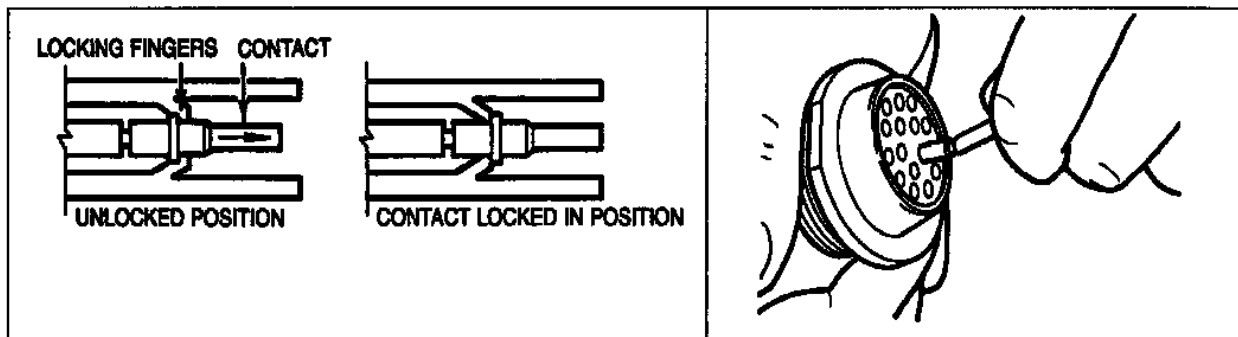

Figure 31 Push Contact Straight into Appropriate Cavity
3. Push the contact straight into the appropriate cavity in the connector grommet until a positive stop is felt. The retaining fingers in the connector will snap behind the shoulder of the contact and lock it in place. A slight tug backward on the wire will verify that the contact is properly seated (Figure 31).